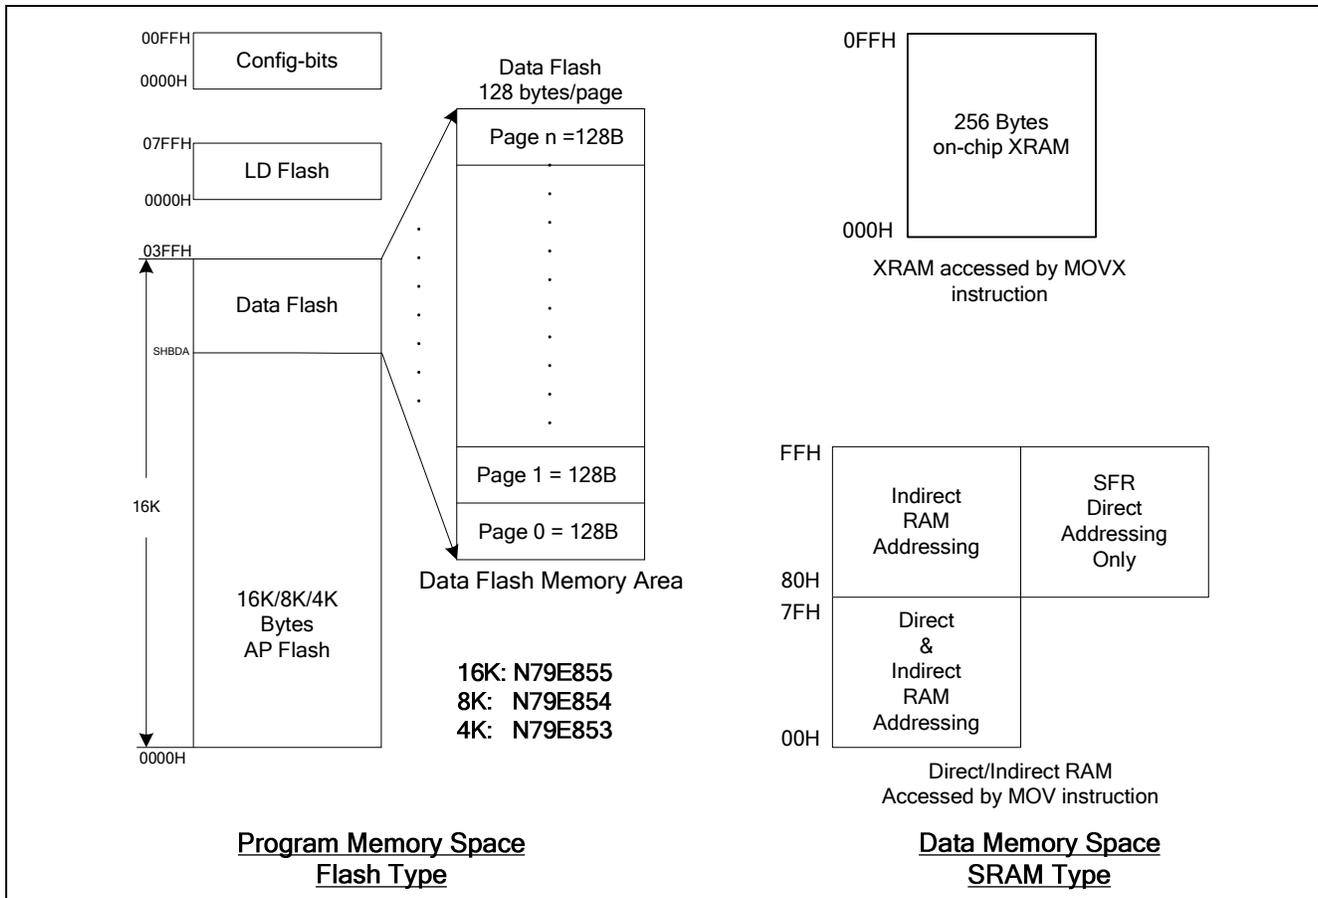

Figure 6-1 N79E845 Series Memory Map
**N79E845** series provide additional on-chip 256 bytes auxiliary RAM called XRAM to enlarge the RAM space. It occupies the address space from 00H through FFH. The 256 bytes of XRAM are indirectly accessed by move external instruction MOVX @DPTR or MOVX @Ri. (See the demo code below.) Note that the stack pointer may not be located in any part of XRAM. Figure 6-1 shows the memory map for this product series.